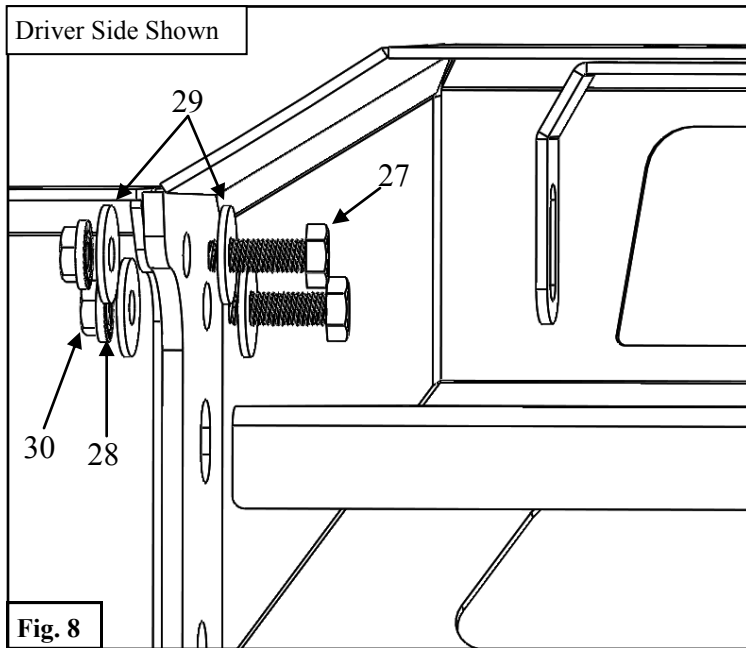

Fig. 8
8. Use the supplied M10 Hardware to attach each Side Pod Assembly (1,2) to the Center Section (4). See **Figure 8**.